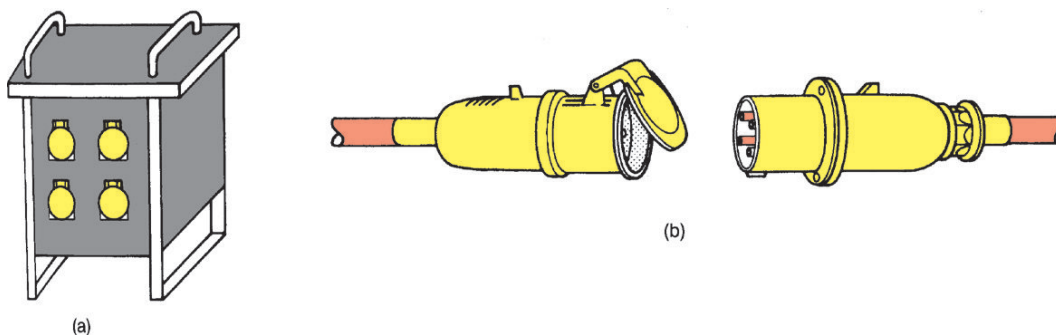

Figure 4.25 110V distribution unit and cable connectors.
Temporary electrical supplies provided on construction sites can save many man-hours of labour by providing the energy required for fixed and portable tools and lighting which speeds up the completion of a project. However, construction sites are dangerous places and the temporary electrical supply which is installed to assist the construction process must comply with all of the relevant wiring regulations for permanent installations (IEE Regulation 110.1). All equipment must be of a robust construction in order to fulfil the on-site electrical requirements while being exposed to rough handling, vehicular nudging, the wind, rain and sun. All equipment, socket outlets, plugs and couplers must be of the industrial type to BS EN 60309 and specified by IEE Regulation 704.511.1 as shown in Fig. 4.25.
- 110V single phase for supplies to all mobile hand tools and lighting equipment. The supply is usually provided by a reduced voltage distribution unit which incorporates splash-proof sockets fed from a centre-tapped 110V transformer. This arrangement limits the voltage to earth to 55V, which is recognized as safe in most locations. A 110V distribution unit is shown in Fig. 4.25. Edison screw lamps are used for 110V lighting supplies so that they are not interchangeable with 230V site office lamps.